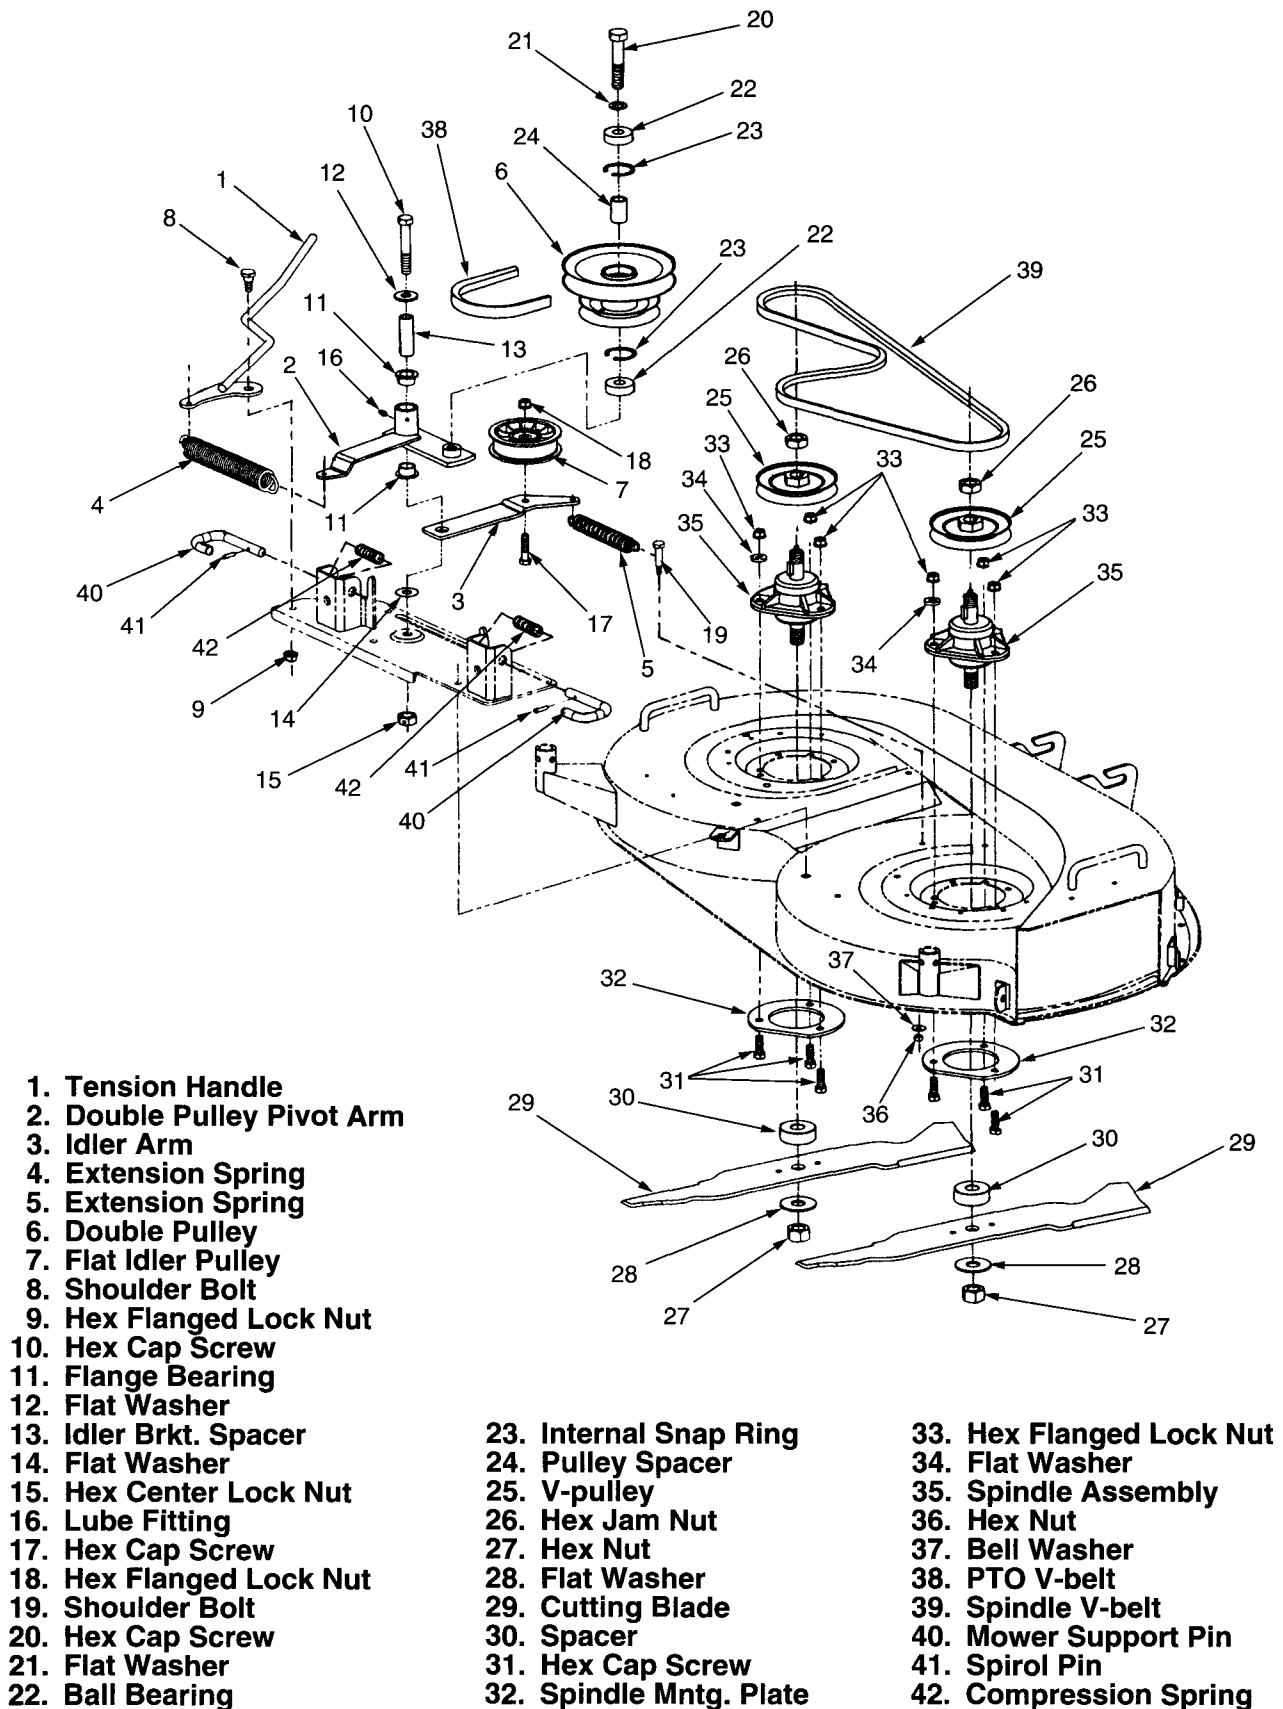

Figure 5-50. Deck Drive Components (Tractor Models 2140 and 2145).
2. If not done previously, release the tension handle (1, Fig. 5-50) from the handle stop bracket (10, Fig. 5-49), and also remove the PTO belt (38, Fig. 5-50) from the PTO clutch.
3. Note the position of the handle stop bracket (10), then remove the stop bracket (10) and LH belt cover (3) from the deck by removing the hex nuts (19) and flat washers (20) from the hex cutting screws (14). Do not remove the cutting screws from the deck housing (1) unless necessary.
4. Rotate the tension handle (1, Fig. 5-50) rearward to remove the extension spring (4) from the tension handle and pulley pivot arm (2).
5. Pull the flat idler pulley (7, Fig. 5-50) away from the spindle V-belt (39) to release the tension and remove the V-belt from the deck.
6. Remove the extension spring (5, Fig. 5-50) from the idler arm (3) and shoulder bolt (19).
Use care when handling the mower blades (29, Fig. 5-50). Sharp edges of the blades could cause cuts to the skin.
When the hex nut (27, Fig. 5-50) is removed, the spindle shaft, with V-pulley (25), is free to fall from the spindle assembly (35) when the deck is tipped or inverted to remove the blades. Use care to prevent these parts from falling, which could cause damage or injury.
To prevent the spindle shaft from turning when removing the hex nut (27, Fig. 5-50) and/or hex jam nut (26), use a 1-1/4 inch wrench to hold the hex shaped hub of the V-pulley (25).
1. Remove the cutting blades (29, Fig. 5-50) and spacers (30) from the spindle assemblies (35) by removing the hex nuts (27) and flat washers (28).
If the woodruff key is removed from the spindle shaft when removing the V-pulley (25, Fig. 5-50), the shaft will be free to fall from the spindle housing and may cause damage or injury.
2. Remove the hex jam nuts (26) and pull the V-pulleys (25) from the spindle shafts and woodruff keys.
3. Remove the spindle assemblies (35) and spindle mntg. plates (32) from the deck housing by removing the hex cap screws (31), hex flanged lock nuts (33) and flat washers (34).
4. If necessary, remove the shoulder bolt (19, Fig. 5-50), hex nut (36) and bell washer (37) from the deck housing.
Disassembly, inspection, and reassembly of the spindle assemblies (35, Fig. 5-50) are covered in paragraph 5-37.
1. Remove the tension handle (1, Fig. 5-50) from the mounting plate by removing the hex flanged lock nut (9) and shoulder bolt (8).
2. Remove the hex center lock nut (15, Fig. 5-50) and hex cap screw (10) to remove the upper flat washer [12 (.100 in. thk.)], double pulley pivot arm (2) assembly, idler arm (3) assembly, and lower flat washer [14 (.036 in. thk.)] from the mounting plate.
3. Remove the double pulley (6, Fig. 5-50) assembly from the pulley pivot arm (2) by removing the hex cap screw (20) and flat washer (21).
4. Disassemble the double pulley pivot arm (2) assembly as follows:
- a. Slide the idler brkt. spacer (13) from the hub of the pivot arm.
- b. If necessary press the flange bearings (11) from each end of the pivot arm hub. Discard the bearings and replace with new.
- c. Remove the lube fitting (16), only if necessary, by pulling from the pivot arm hub. The lube fitting must be replaced if removed.
5. Disassemble the double pulley assembly (6) as follows:
- a. Slide the ball bearing (22) from each end of the pulley hub and remove the pulley spacer (24).
- b. Remove the internal snap rings (23) from inside the pulley hub.
6. Remove the flat idler pulley (7, Fig. 5-50) from the idler arm (3) by removing the hex flanged lock nut (18) and hex cap screw (17).
7. Using a small drift punch, drive the spirol pins (41, Fig. 5-50) out of the mower support pins (40), and remove the support pins and compression springs (42) from the mounting plate.
4. Install the mower support pins (40, Fig. 5-50) in the hanger brackets of the mounting plate (2, Fig. 5-49) as follows:
- b. Position the compression spring (42, Fig. 5-50) between the sides of the hanger bracket and push the support pin through the spring.
- d. Block the support pin and drive the spiro pin (41, Fig. 5-50) into the hole of the support pin.
5. With the hub extension of the idler pulley facing downward and the offset of the idler arm upward, install the flat idler pulley (7, Fig. 5-50) on the idler arm (3) using the hex cap screw (17) and hex flanged lock nut (18).